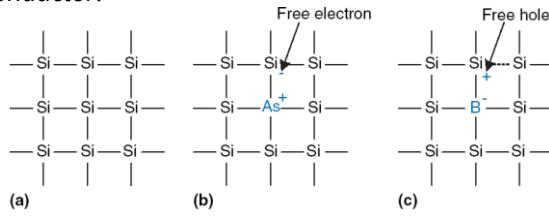

Figure 1.20 Silicon lattice and dopant atoms
MOS transistors are built from silicon, the predominant atom in rock and sand. Silicon (Si) is a group IV atom, so it has four electrons in its valence shell and forms bonds with four adjacent atoms, resulting in a crystalline lattice. *Figure 1.20(a)* shows the lattice in two dimensions for ease of drawing, but remember that **the lattice actually forms a cubic crystal**. In the figure, a line represents a covalent bond. By itself, silicon is a poor conductor because all the electrons are tied up in covalent bonds. However, **it becomes a better conductor when small amounts of impurities**, called **dopant atoms**, are carefully added. If a **group V dopant such as arsenic (As)** is added, the dopant atoms have an extra electron that is not involved in the bonds. The electron can easily move about the lattice, leaving an ionized dopant atom (As^+) behind, as shown in *Figure 1.20(b)*. The electron carries a negative charge, so we call arsenic an *n-type* dopant. On the other hand, if a **group III dopant such as boron (B)** is added, the dopant atoms are missing an electron, as shown in *Figure 1.20(c)*. This missing electron is called a *hole*. An electron from a neighboring silicon atom may move over to fill the missing bond, forming an ionized dopant atom (B^-) and leaving a hole at the neighboring silicon atom. In a similar fashion, the hole can migrate around the lattice. The hole is a lack of negative charge, so it acts like a